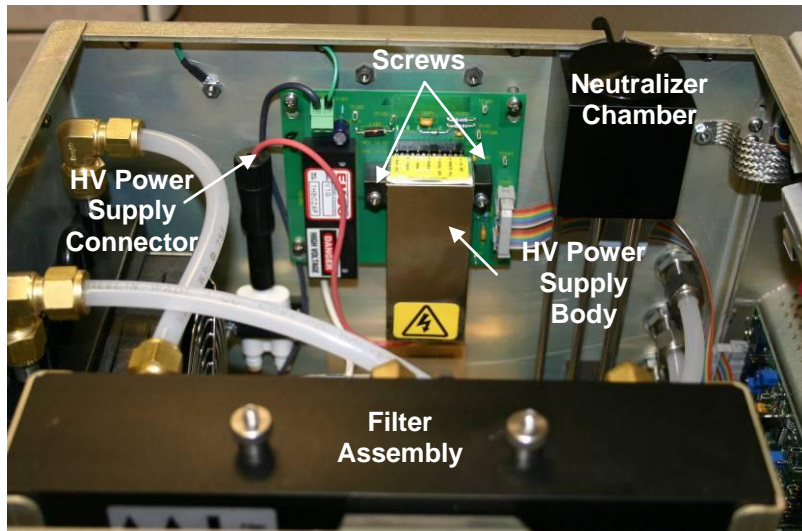
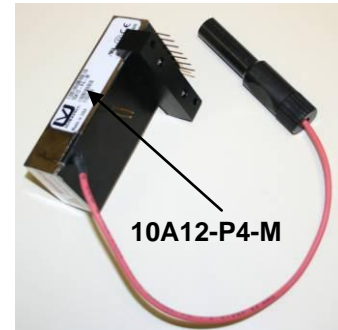

Figure 2. Location of HV Power Supply in 3080 Electrostatic Classifier
Figure 3. Positive HV Power Supply
The location of the HV power supply in the Classifier is shown in Figure 2 and the optional positive HV power supply is shown in Figure 3.
3. Disconnect the long black HV power supply connector by pulling it up and then loosen the two screws on the sides of the HV power supply body from the mounting bracket (Figures 2 and 4).